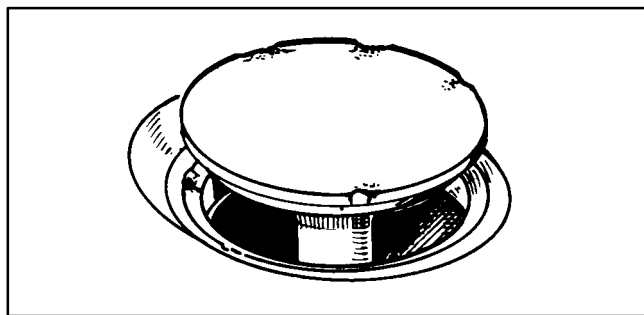

FIGURE 36. BURNED VALVE FACE
**Valve Face:** See Figure 36. Check the valve face for evidence of burning, warping, out-of-roundness and carbon deposits.